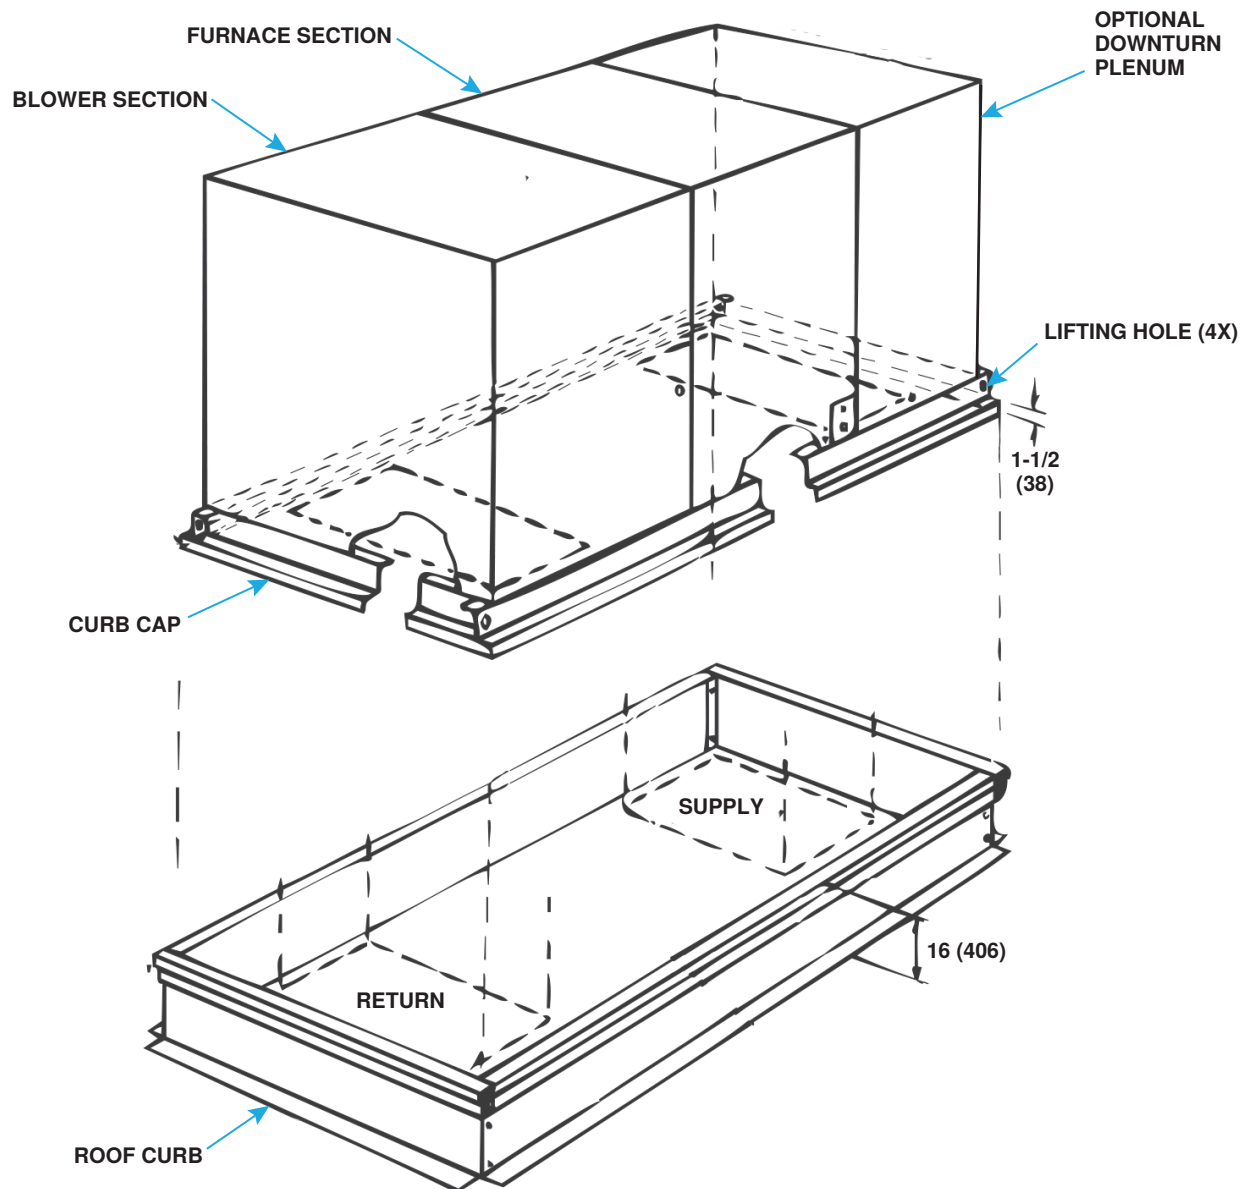

Figure 5. Unit Installation on Roof Curb
9. Complete unit installation on roof curb (see Figure 5) in accordance with installation, operation, and maintenance manual provided with unit.